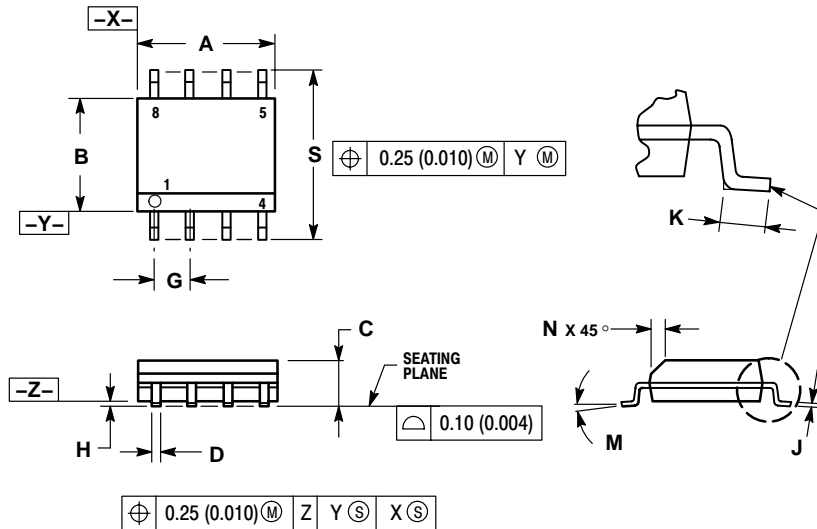

**Figure 4. 12 V Application
- a. Per Example in Fig 4, $V_{in} = 12 \text{ V}$
- b. Per Example in Fig. 4,